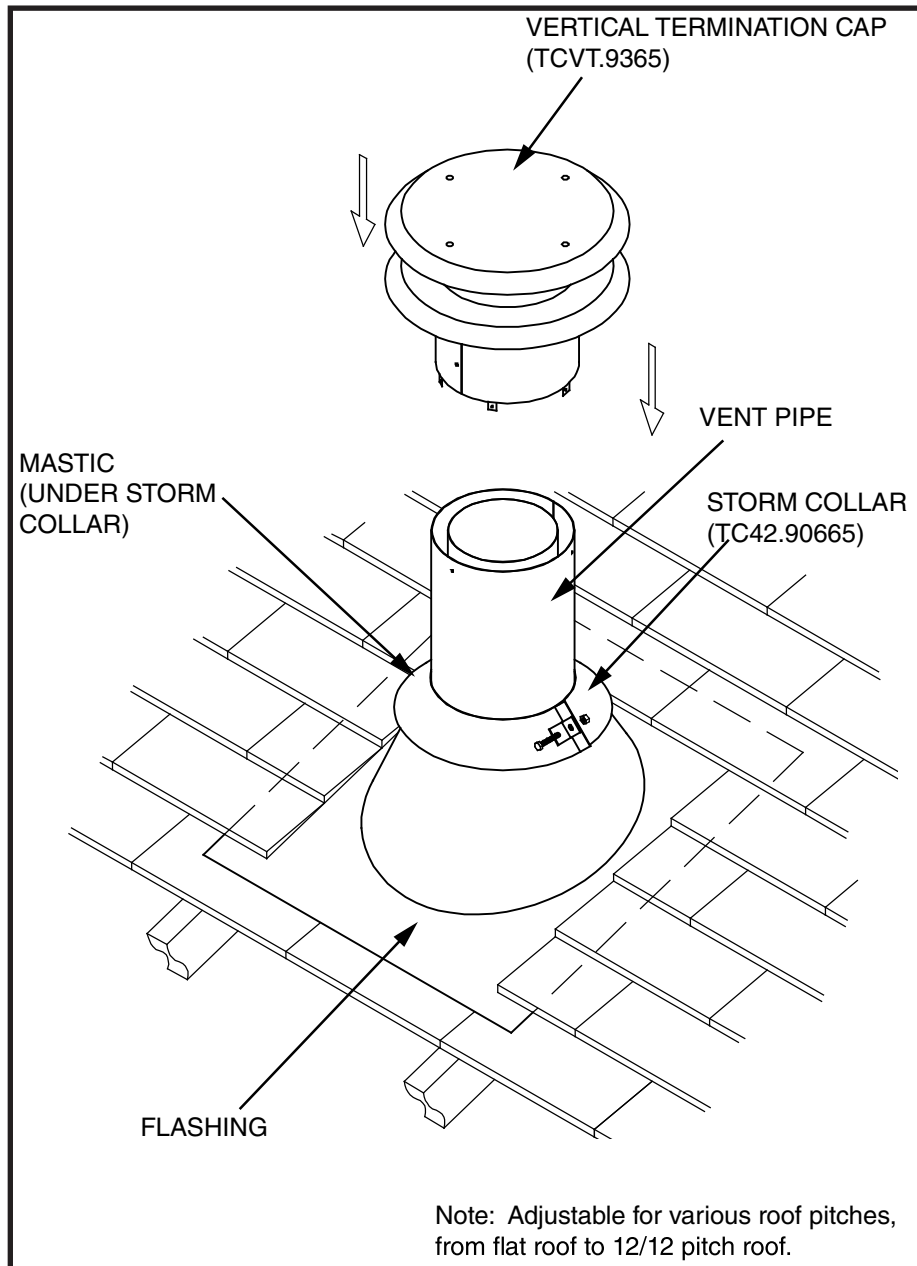

Figure 41: Roof terminal.
- Place the roof flashing over the vent pipe, secure and seal it to the roof using the methods and materials appropriate for the type of roof on the building. Shingle roof example shown in Figure 41.